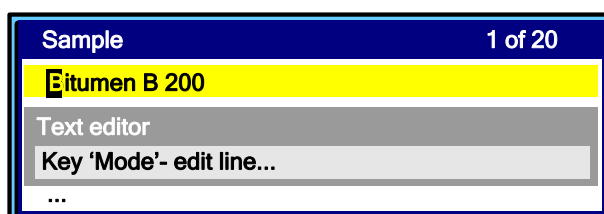

Figure 26 – Line edit mode
4.10.2.3 If the list of names does not contain the necessary information, select any line (for example, «BND-90 / 130») and press «Mode». In this case, the tester switches to line editing mode (see figure 26).